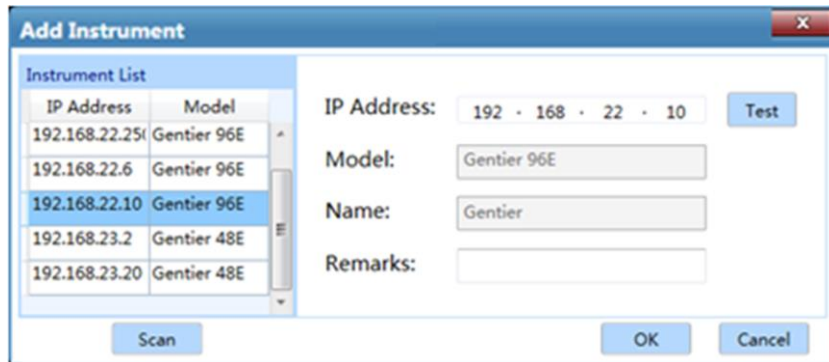

Figure D-3.2a. Instrument Management Interface - Add Instrument Window
- a. Click **< Add >** and the **Add Instrument** window will automatically pop up, as shown in figure D-3.2a.